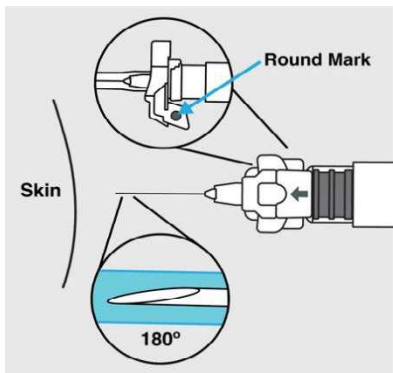

Figure 13: Pull skin taut and insert needle
3. Gently pull the skin at the injection site taut and insert needle at a 90° or 180° angle. Before inserting the needle, check the orientation of the safety device. The arrow on the safety device should be pointed towards the patient, with the round mark directed upward. (Figure 13)